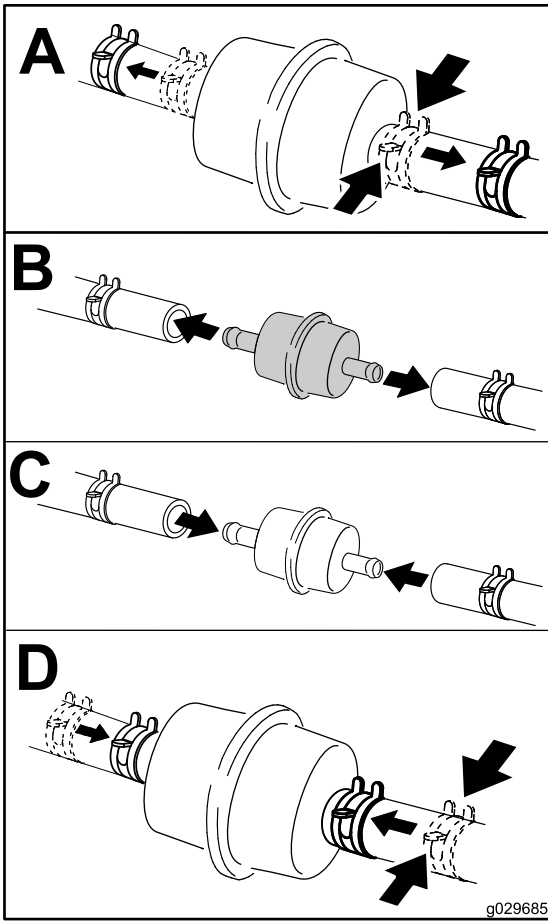

Figure 44
6. Place a clean container under the fuel filter and replace the fuel filter as shown in Figure 44.